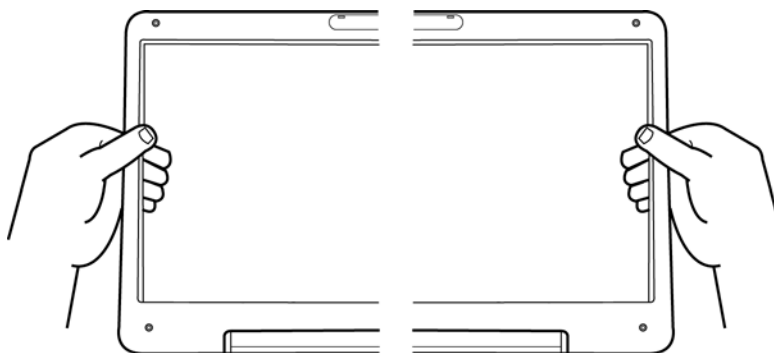

Figure 4.37 Removing the bezel from the hinge wall
5. Push the bezel from the left and right side as shown in Figure 4.37 and remove the bezel from the display assembly.